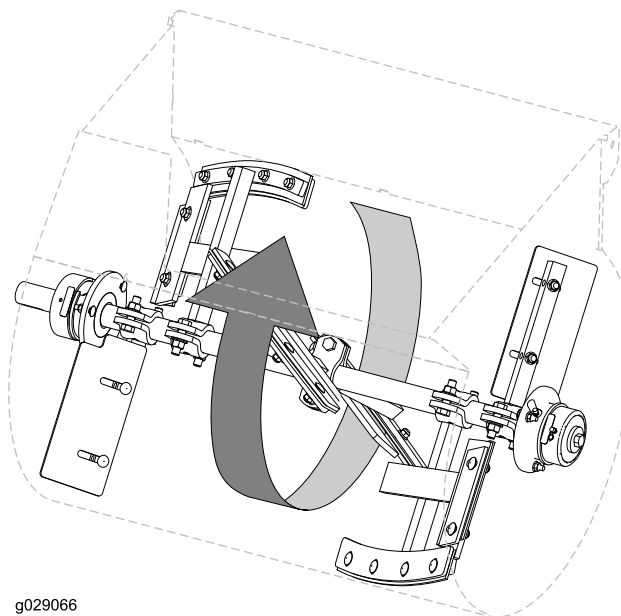

Figure 44
- Rotate a paddle from the left row of paddles around the drum and locate at the interior of the drum the smallest distance between the drum and the wiper of the paddle (Figure 44).